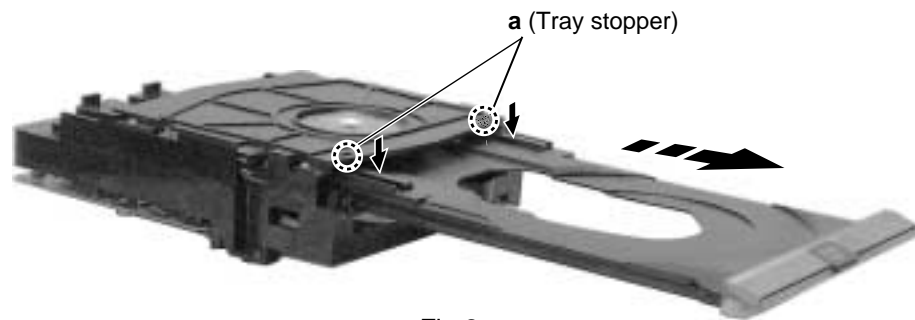

Fig.2
1. Align the rail with the DVD / CD tray as shown fig.2, then mount the DVD / CD tray.